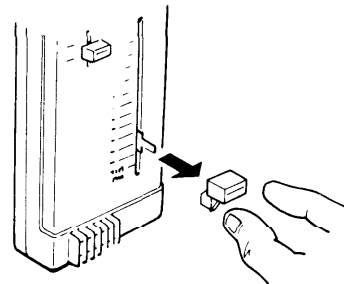

Fig. 39
- Pull off the thermostat knob. Fig. 39.